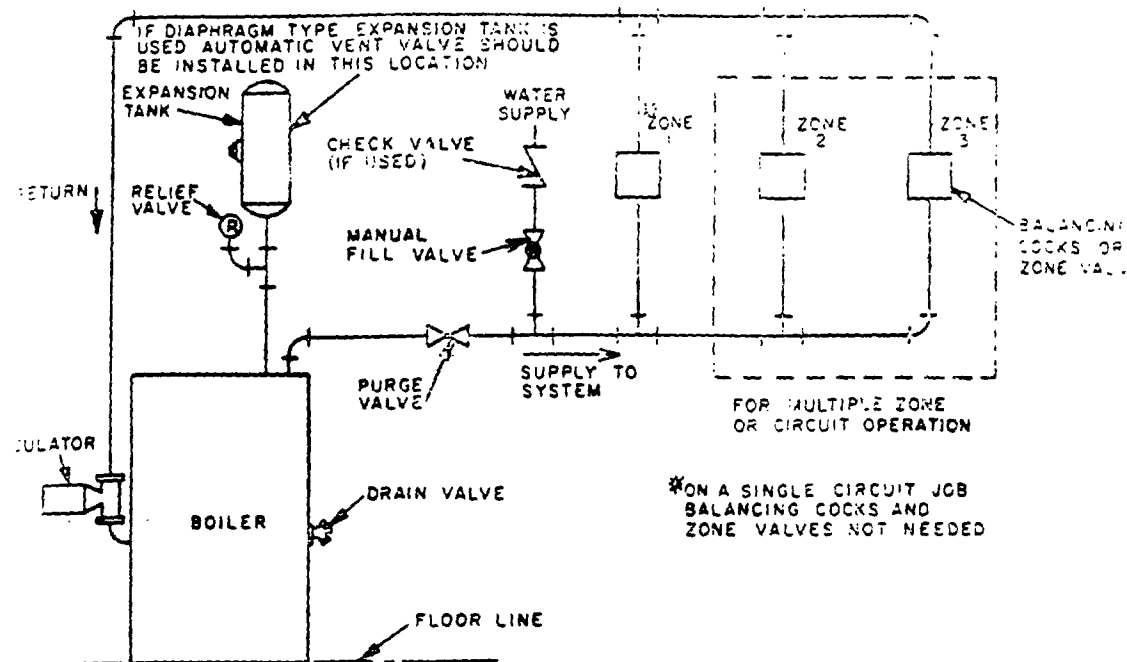

FIG. 7
10. The boiler is now ready to be filled. THE FILLING PROCEDURE IS AN IMPROVED METHOD, AND SHOULD BE FOLLOWED AS INDICATED ON FIG. 7.
The following procedure should be used to fill a series loop Heatrim System (See Fig. 7).